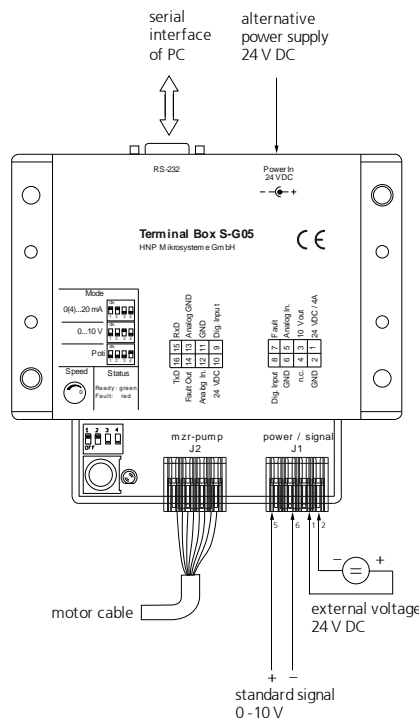

figure 30
4. Connect an external 0-10 V voltage supply to the terminal clamps »AnalogIn« and »GND« to the S-G05. (see figure 30)
4. Connect an external 0-10 V voltage supply to the terminal clamps »AnalogIn«, »10 V« and »GND« to the S-G05.(see figure 30)